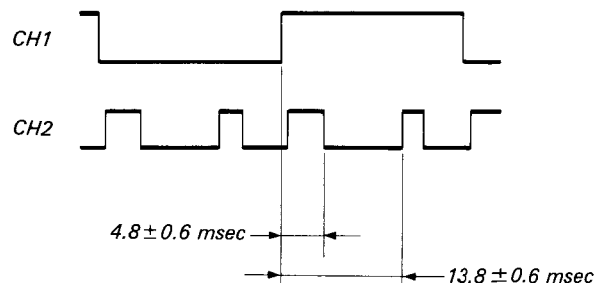

Fig. 8-11.
- 2) Adjust to  $4.8 \pm 0.6$  msec with RV203. (See Fig. 8-11.)
- 3) Adjust to  $13.8 \pm 0.6$  msec with RV204. (See Fig. 8-11.)